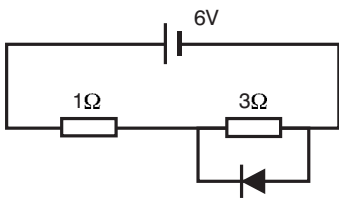

Figure 5.41
2. a) What size current will be drawn from the battery in Figure 5.41? Give your reasoning.